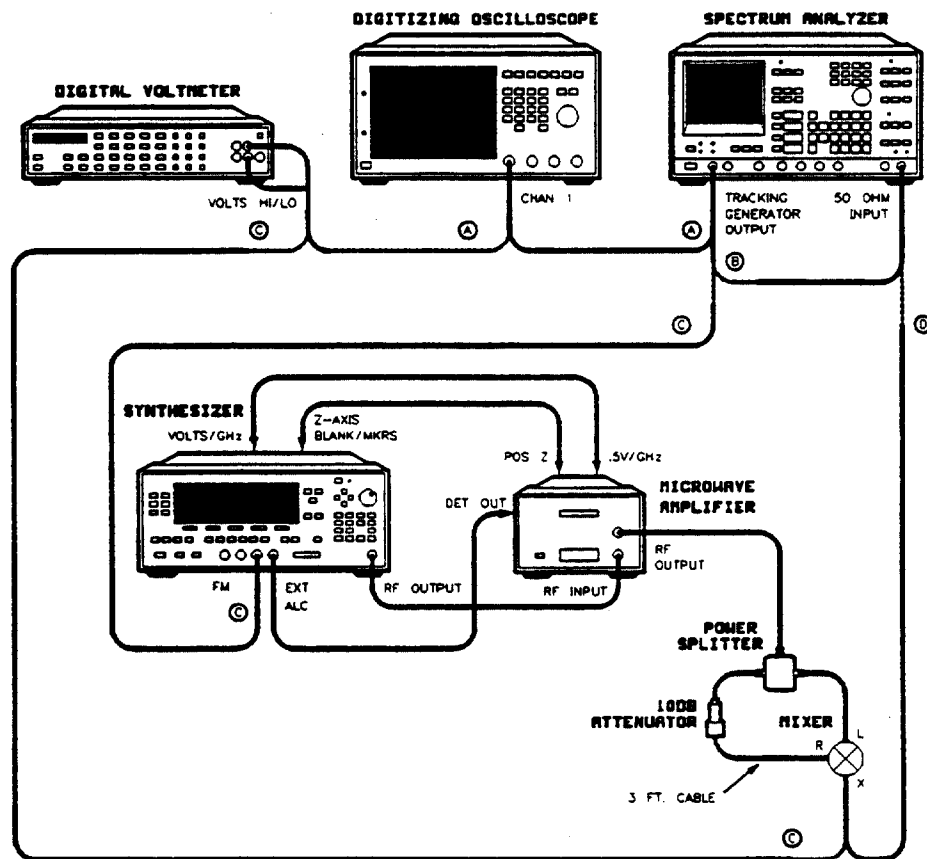

Figure 2-29. FM Bandwidth Test Setup
1. Connect the equipment as shown in Figure 2-29 with the tracking generator output connected to the channel 1 input of the oscilloscope (A). A DVM can be used in place of the oscilloscope for rms measurements. Preset all the equipment and let them warm up at least one hour.